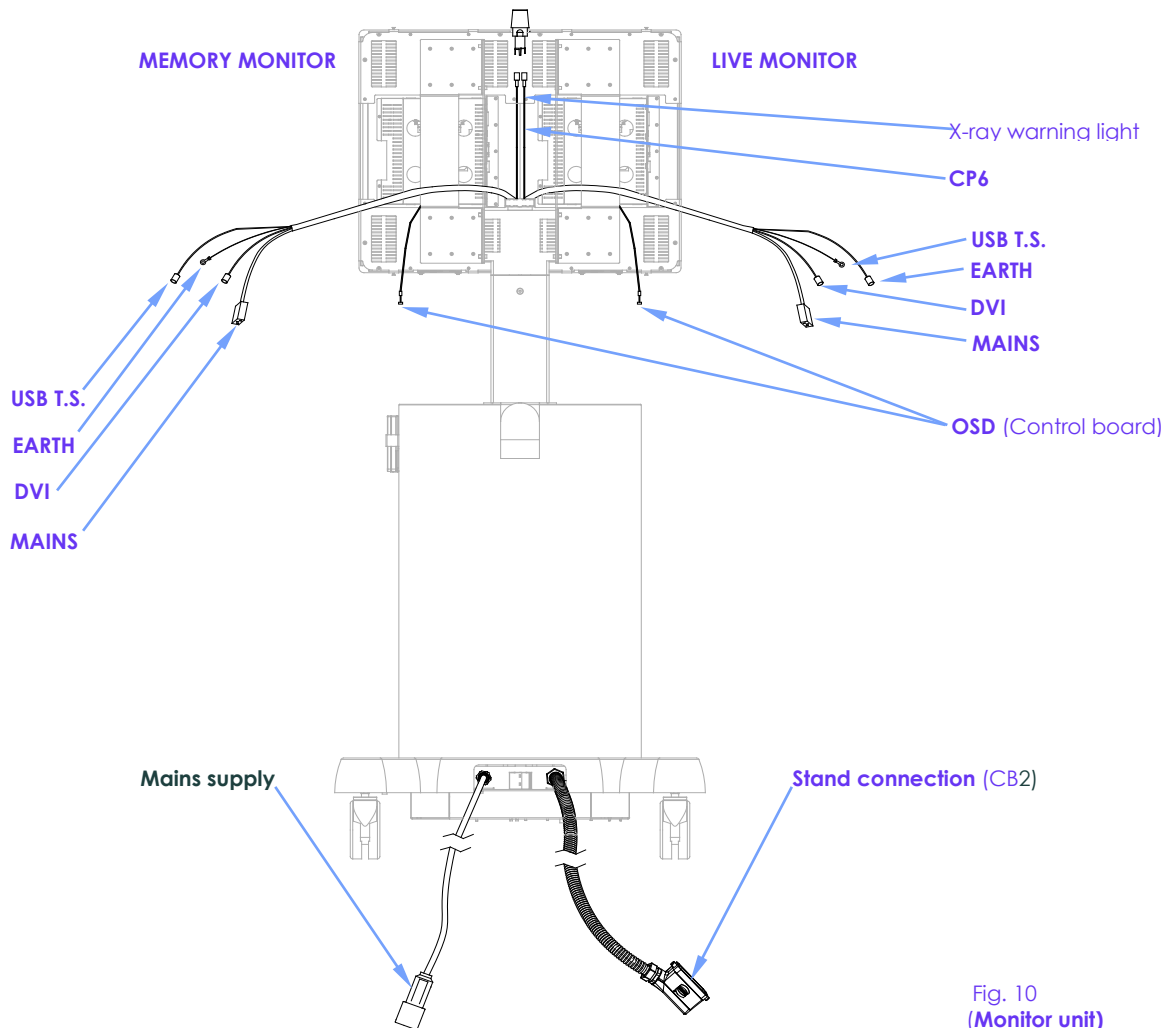

Fig. 10
- Connect the following components to each monitor (see Fig.10 and 11):
- Connect cable **CP6** to the X-ray emission warning light (see Fig.10 above).